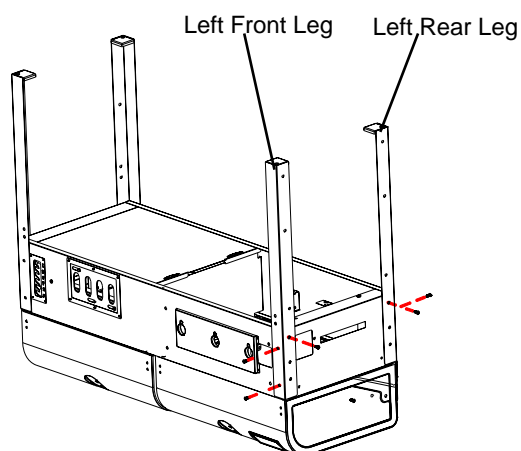

Fig. 2
*Locate:* Left Front Leg, Left Rear Leg, note- each leg will have an identification label on it. (5) M6X15 bolts
Refer to Fig. 2 and attach the Left Front Leg-Green Label #4 and the Left Rear Leg-Yellow Label #3 as shown using (5) M6x15 bolts.